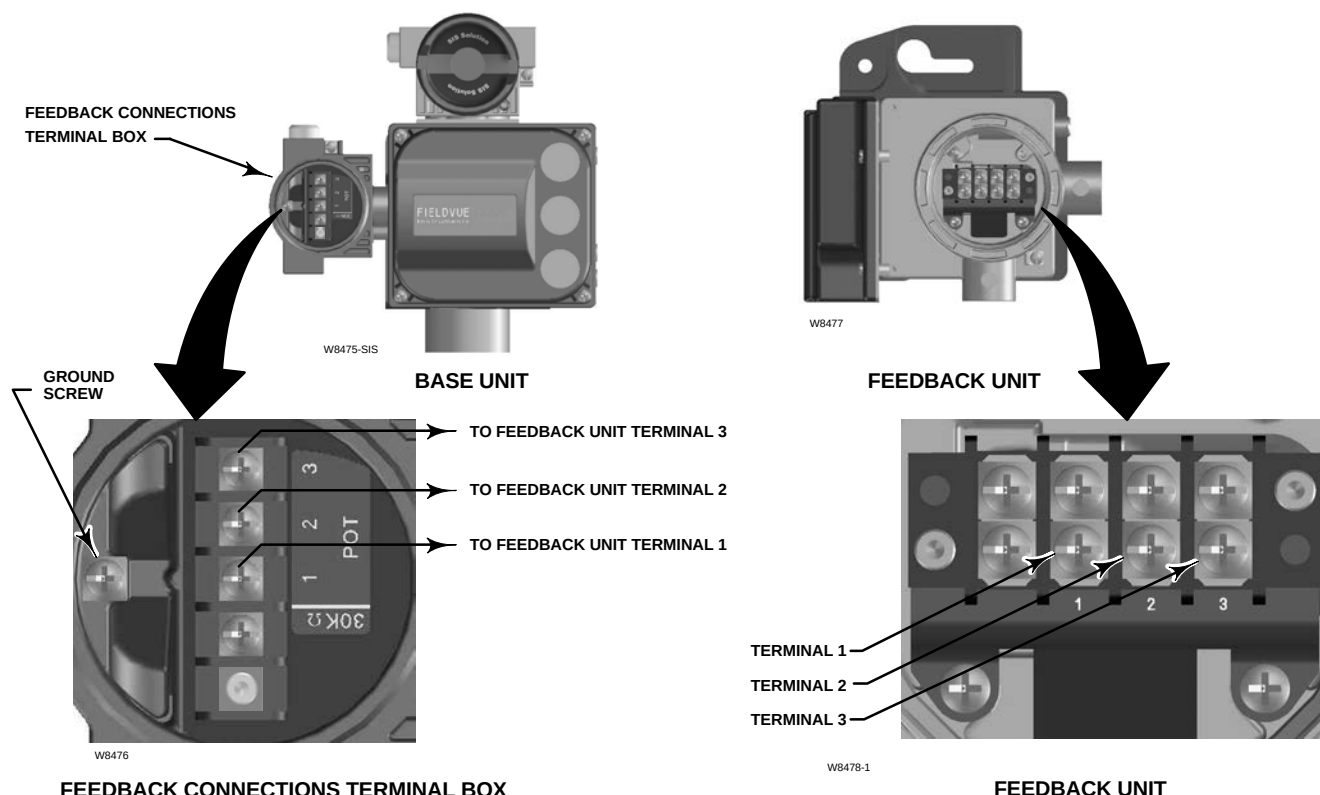

Figure 2-21. Terminal Details for Connecting Base Unit and Feedback Units of Remote-Mounted Digital Valve Controllers
3. If necessary, install conduit between the feedback unit and the base unit following applicable local and national electrical codes. Route the 3-conductor shielded cable between the two units (refer to figure 2-21).